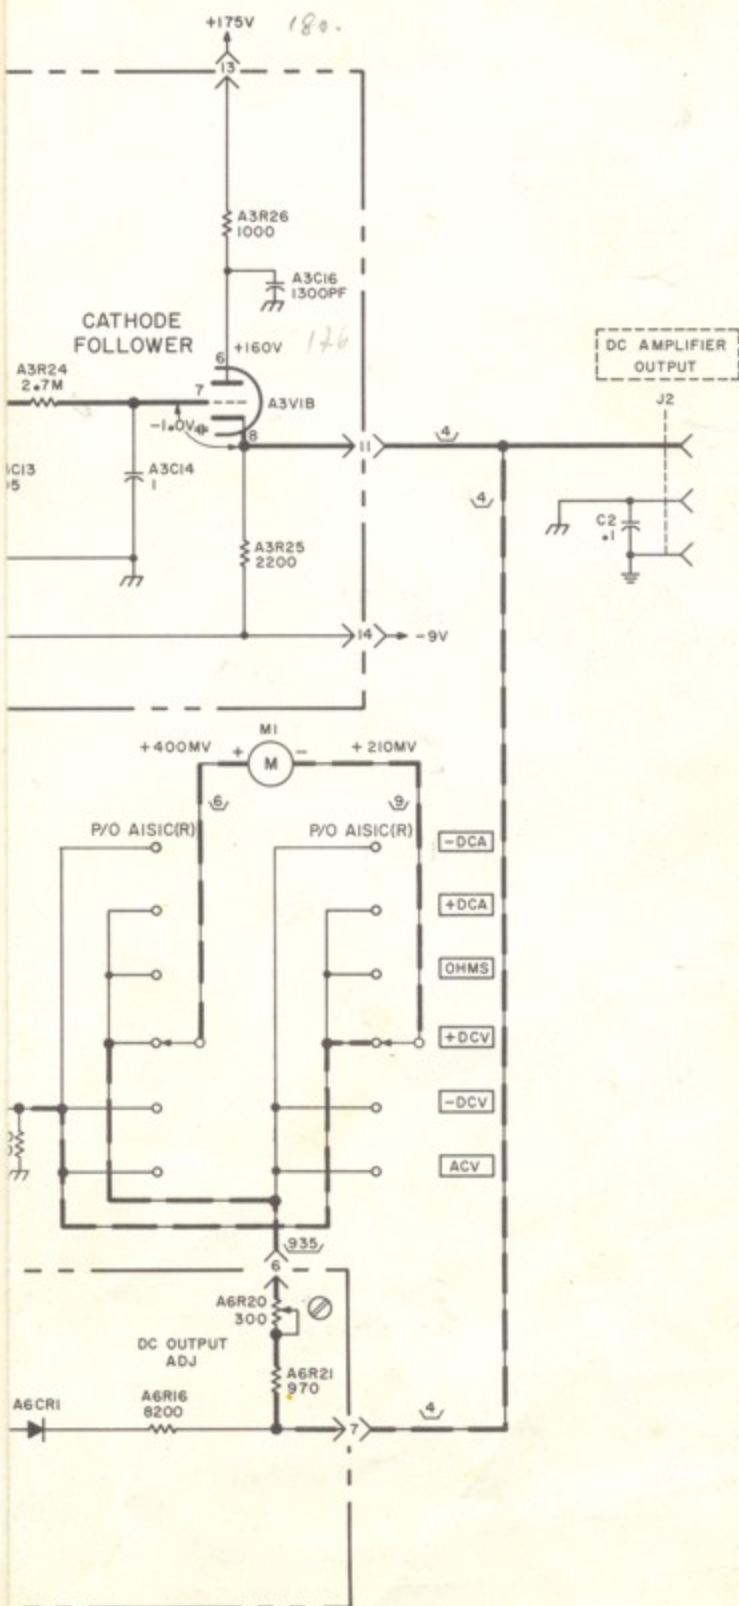

Figure 5-11. Amplifier Schematic
In -DCV, pointer deflects 1/2 scale. In +DCV, pointer pegs downscale.	Check A3C5 (Figure 5-11).
In +DCV, pointer pegs downscale. In -DCV, pointer pegs upscale.	Check A3Q1, A3C6 or A3C12 (Figure 5-11).
*Meter pegs upscale on all ranges. +DC Amplifier output is high regardless of mode of operation.	Check for open resistor in amplifier feedback loop or shorted A1R10 (Figure 5-11).
- ③ With Model 410C FUNCTION SELECTOR to +DCV; RANGE 0.015 v; overdrive with a +0.5 v input. Measure the dc voltage at the DC AMPLIFIER OUTPUT on Model 410C rear panel. Output should be approximately +4.0 v. If this measurement is correct, disconnect source and short DCV probe and COM lead. If output is zero, proceed to ⑤; if not, proceed to ④.
- ④ Trace circuit from Pin 11, A3 to Pin 2, A6. Use ohmmeter to check values of A6R21, A6R20, A6R17 and A6R1. Refer to Figure 5-11 for pertinent component values. Check pertinent dc voltages under conditions listed in NOTE No. 11.
- ⑤ Measure the dc voltage at Pin 1, A3. This voltage is typically 13-15 mv. If this voltage is correct, proceed to ⑦; if not, proceed to ⑥.
- ⑥ Investigate switch circuit. Refer to asterisks in Table 5-10 for hints on how to troubleshoot switch circuit.
- ⑧ Investigate the demodulator and cathode follower A1V3B. Refer to Figure 5-11 for typical voltage and parameter values under conditions listed in NOTE No. 11. Refer to Table 5-10 for method to check for open demodulator.
- ⑨ Investigate the modulator and amplifier to include A1V1A, Q1 and Q2. Refer to Figure 5-11 for typical voltage and parameter values under conditions listed in NOTE No. 11. Refer to Table 5-10 for method to check for open modulator.